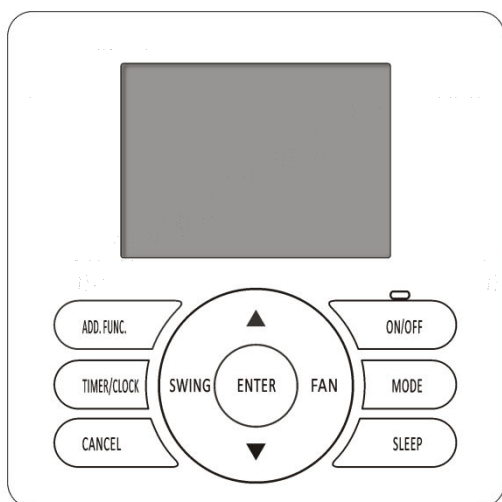
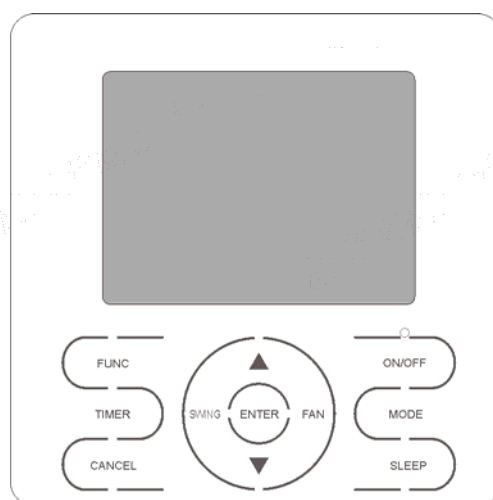

Fig.2 YXE-C01U/ YXE-C02U(E)
Fig.3 YXE-D01U(E)
Fig.2 short wiring
Fig.3 output line
circuit state under the factory state (an external short circuit plug shown as Figure 2).
- 1) When using the room card control, the user cuts off the short wire shown in Figure 2 and connects the red lines to the control switch (supplied by user), and the connecting wire should be 22AWG or above specification. The switch is closed under normal conditions and off under abnormal conditions.
- 2) When using the fire protection , the user cuts off the short wire shown in Figure 2 and connects the White lines to the control switch (supplied by user), and the connecting wire should be 22AWG or above specification. The switch is closed under normal conditions and off under abnormal conditions.
- 3) When using the ON/OFF function, the user cuts off the short wire shown in Figure 2 and connects the White lines the ON/OFF control switch (supplied by user), and the connecting wire should be 22AWG or above specification. In normal conditions, the machine starts once the switch is closed and the machine shuts down once the switch is off.
Fig.2 short wiring (old)
Fig.3 main control board
Fig.2 short wiring (new)
3 pins of the OUT INPUT CN16 socket shown in the electrical wiring diagram of Figure 1 are tacitly approved to be in short circuit state under the factory state (an external short circuit plug shown as Figure 2), and the OUT INPUT CN16 socket of main control board is shown as Figure 3.
- 4) When using the room card control or fire protection , the user cuts off the short wire shown in Figure 2 and connects the red line and the black line to the control switch (supplied by user), and the connecting wire should be 22AWG or above specification. The switch is closed under normal conditions and off under abnormal conditions.
- 5) When using the ON/OFF function, the user cuts off the short wire shown in Figure 2 and connects the black line and the white line to the ON/OFF control switch (supplied by user), and the connecting wire should be 22AWG or above specification. In normal conditions, the machine starts once the switch is closed and the machine shuts down once the switch is off.